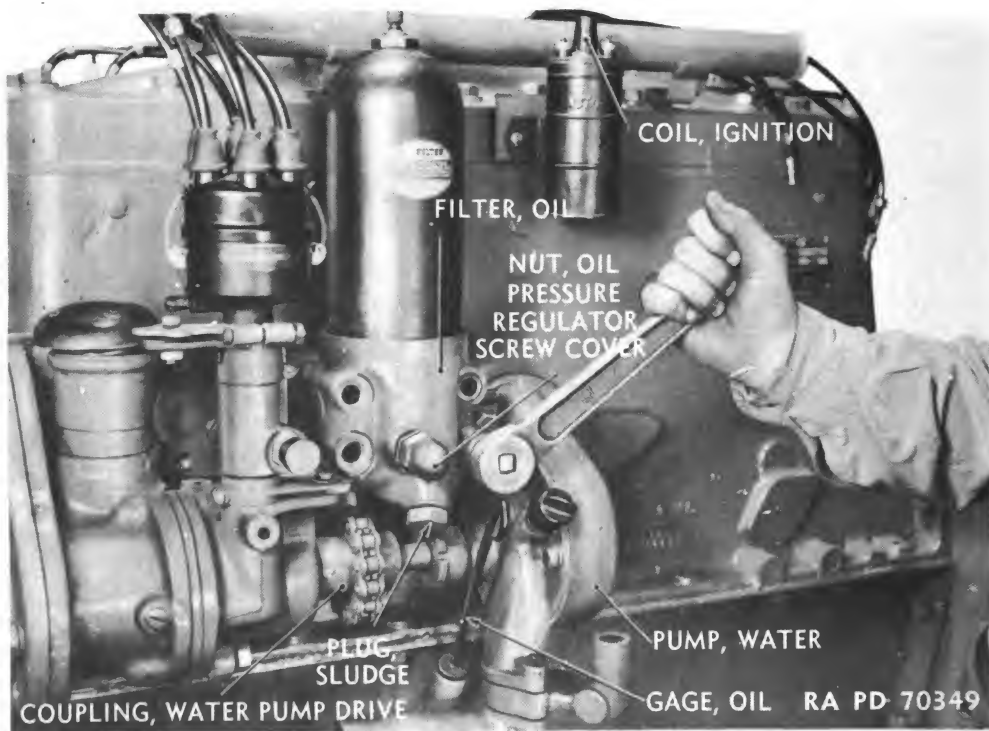

Figure 25 — Oil Filter Base Removal
(12) Remove oil filter (fig. 25).
(13) Remove ignition leads and ignition coil.